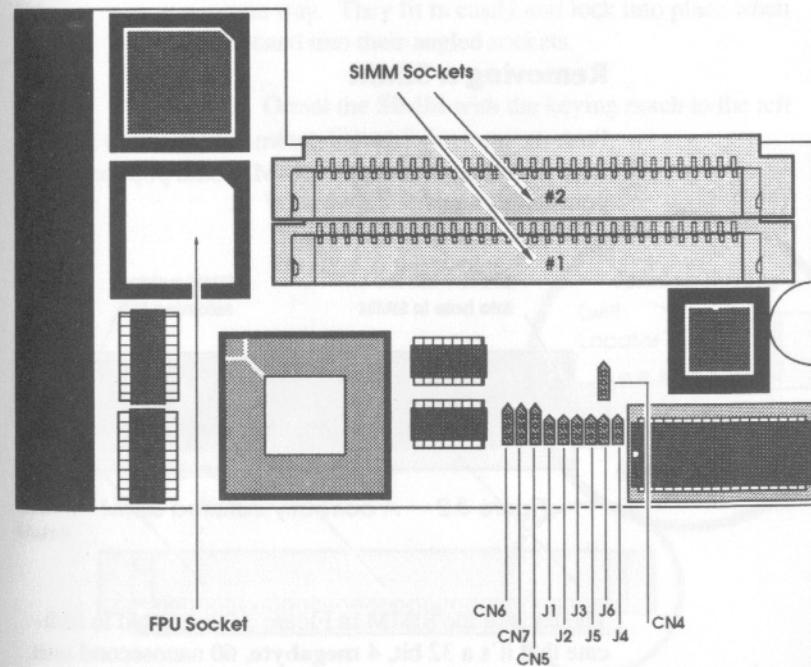
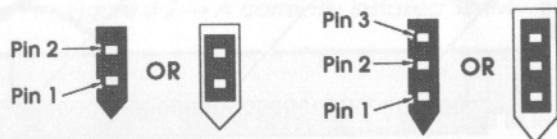

Figure 3.1 — Layout of The A1230 Turbo+ board
Figure 3.6 — Jumper pin numbering.
NOTE >>> The A1230 Turbo+ can use GVP's 1MB, 4MB or 16MB (megabyte) SIMM32 modules in any combination, as long as the SIMM with the highest memory capacity is always placed in SIMM Socket #1 (see Figure 3.1).
Below the SIMM sockets on the A1230 Turbo+ are a set of upright metal pins, in groups of two and three called **jumpers** (see Figure 3.1 — they're labeled with 'J' and 'CN'). These are connection points for special circuits on the board, and are used to set various parameters for proper operation of the board. By pressing a **shorting block** onto a pair of pins, you're turning a parameter **ON**.
- Orient the FPU so that the writing on the chip faces upwards and the notch in the corner of the chip matches the notch in the corner of the socket (see Figure 3.1). The chip will fit in the socket easily only one way.
Refer to the jumper labels in Figure 3.1, and Figure 3.6.